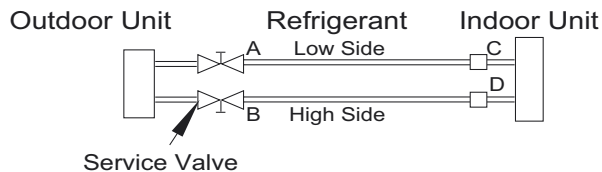

Fig. 45 —Service Valve
3. Fully open the low side of manifold gage (see Fig. 45).